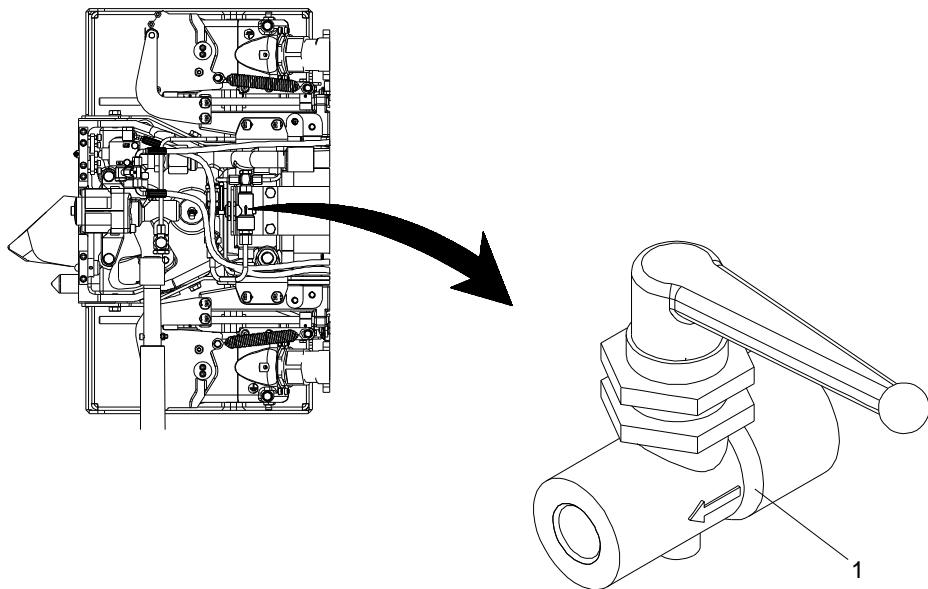

Figure 5-13: Inspect Ball Valve
1. Inspect ball valve (1) for damage and missing parts. See Figure 5-13.